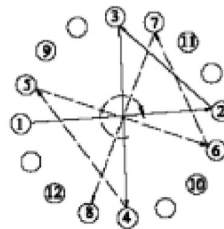

Fig. 6 Sequence of Tightening
- Tighten the first four nuts in the sequence shown Fig.6. This helps in correct location of the mating parts.